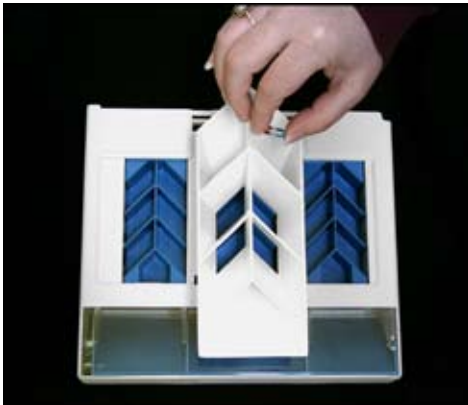

figure 9.
4. Use the EZ loading funnel (figure 9) for easier loading of each pill tray.